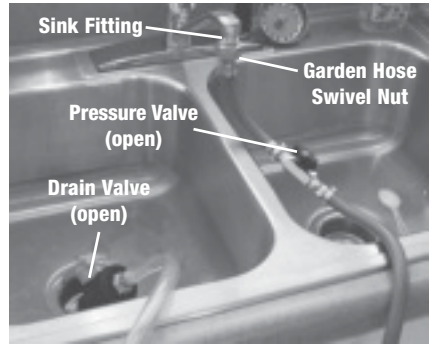
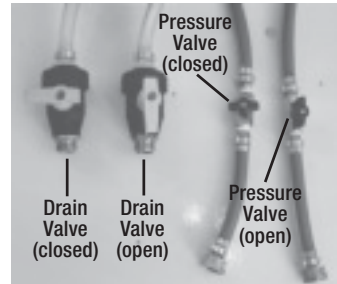
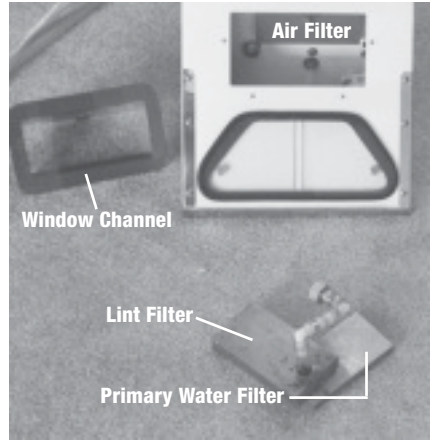

Figure 8: Hoses Hooked to Sink
Figure 9: Ball Valves (open and closed)
Figure 22: Water filters removed and separated
1. Tighten garden hose swivel nut (figure 8) to the sink fitting. Turn hot water valve all the way open and open your pressure valve (figure 9).
2. Open drain valve (figure 9) and insert in sink, toilet or other drain.
B. Keep Air Filter (fig. 22 & 23) Clean
3. Close drain and pressure valves (figure 9).
3. Remove water filter by unscrewing its garden hose swivel nut (figure 8, page 3). Lift up lint filter and rinse off both the lint and primary filters (figure 22).